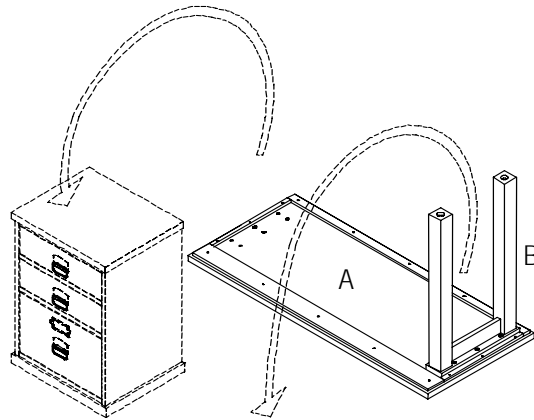

Fig. 2
3. Once the leg set (B) is securely fastened onto the desktop (A), grip the table and turn upright. Place the desktop with legs on the top of a file cabinet. (Fig. 2).